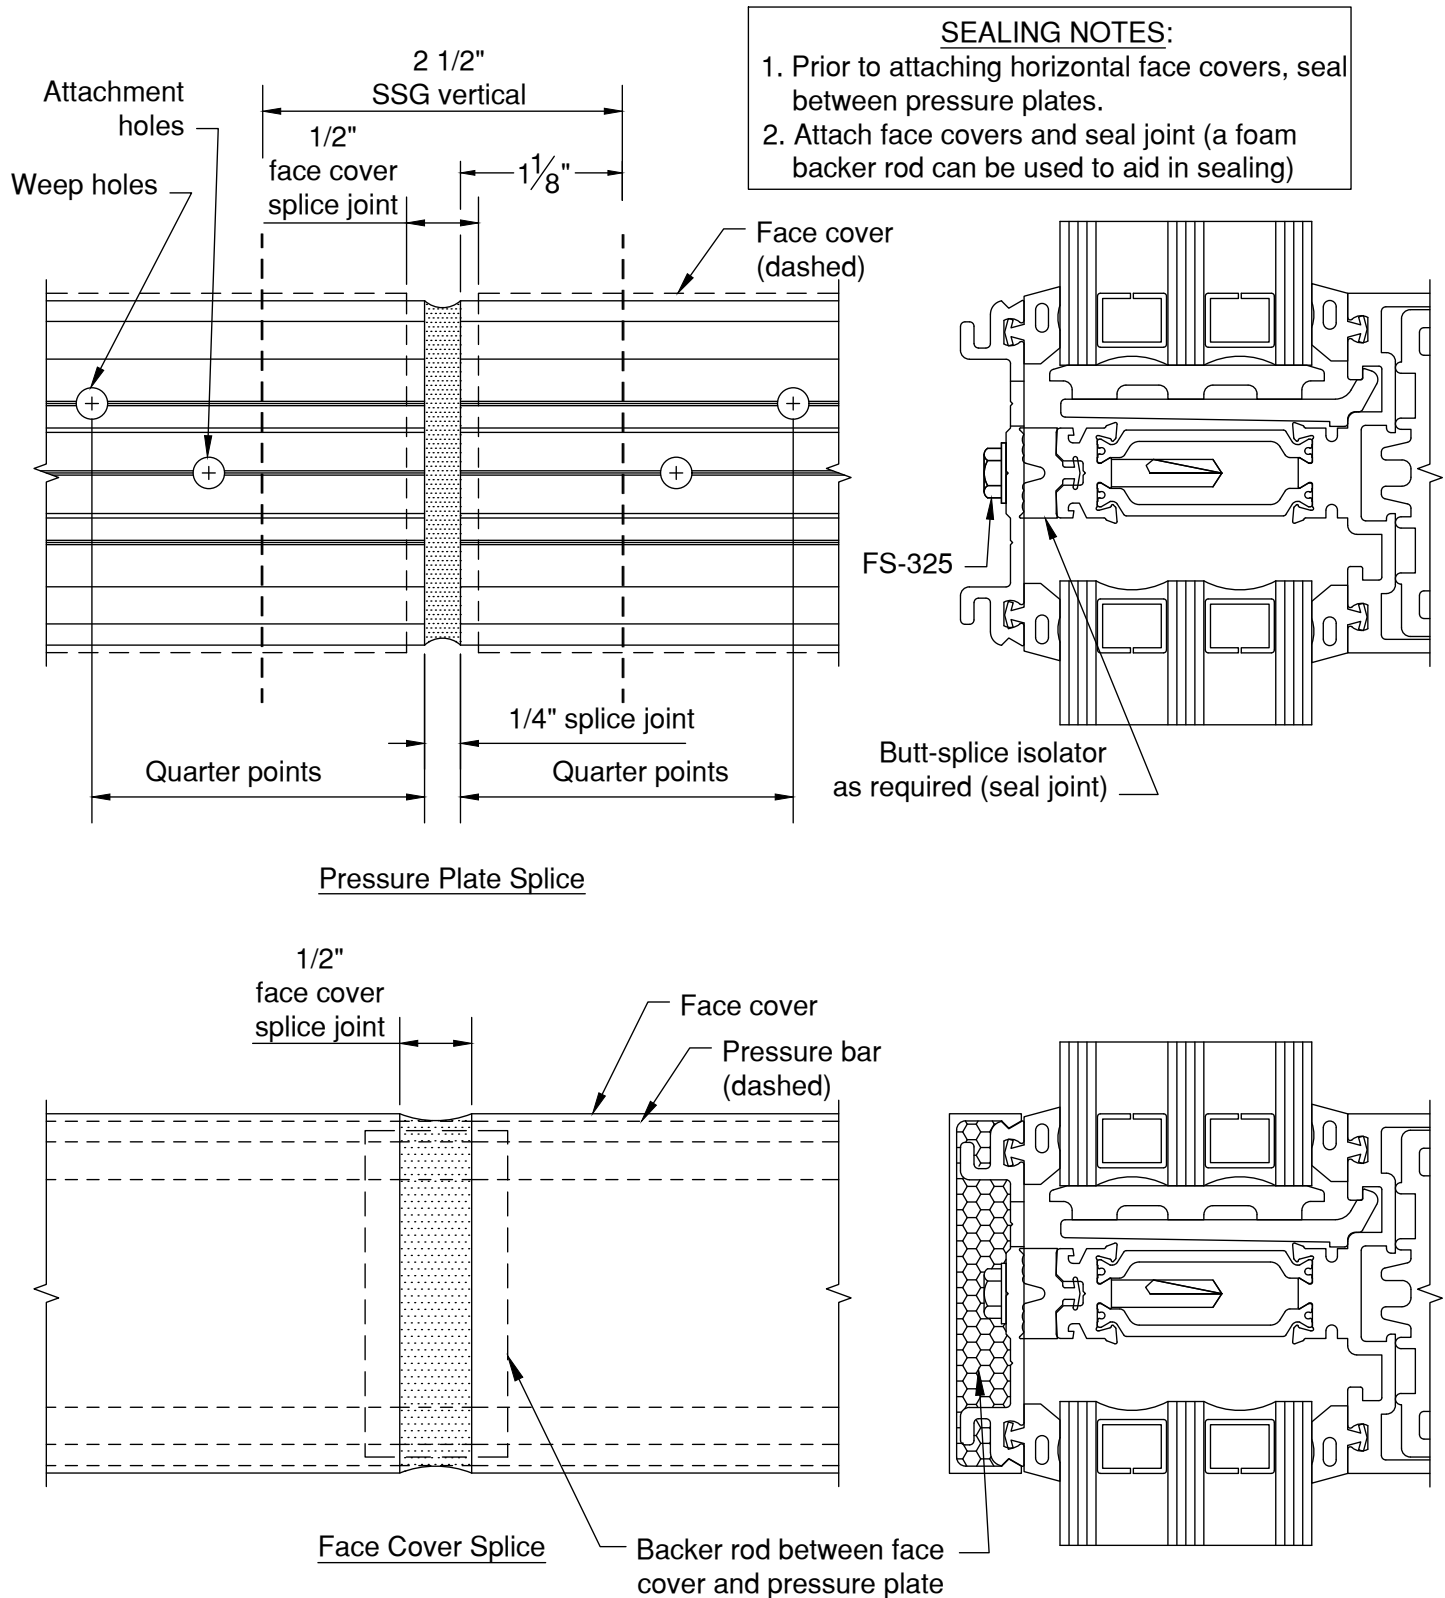

FIGURE 16
- 3.11 After removing horizontal temporary retainers, center horizontal pressure plates in opening, leaving 1/8" gap on each end. Make sure that weep holes are on the top side of the pressure plate. **NOTE:** Horizontal pressure plates and face covers run continuous over SSG mullions, not to exceed 3 lites in length. SEE FIGURE 16 for splicing and sealing instructions.